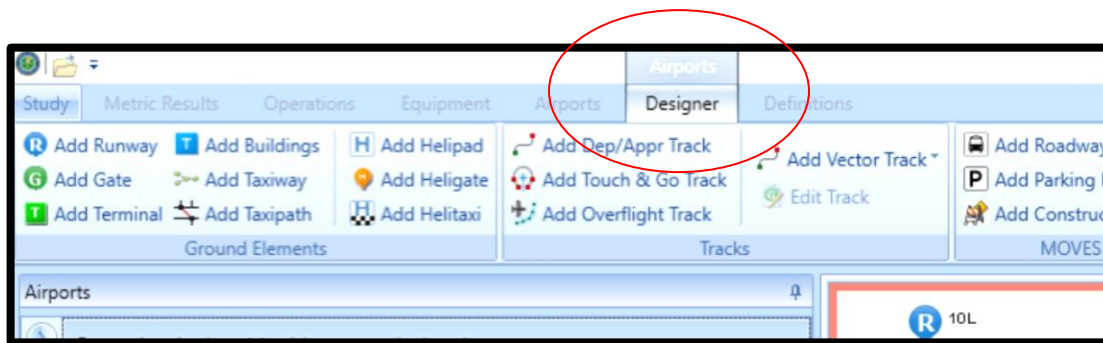

Figure 8- Airports Designer Tab
1. Select the *Airports Designer* tab (Figure 8). AEDT will load all of the airport layout features.